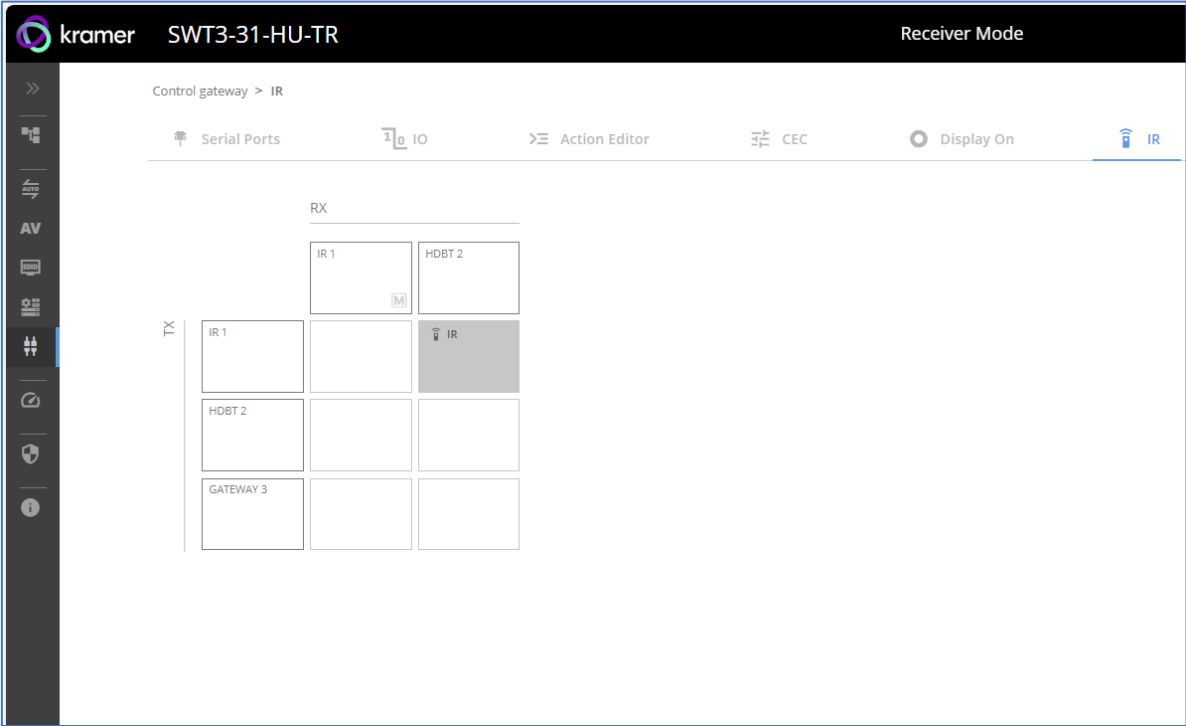

Figure 46: IR Tab Signals Routing
IR routing cross-point grid for Tx and Rx extension operation modes (see Figure 46), enable IR signals routing, as follows:
2. Select the **IR** tab. The IR tab opens (see Figure 46).